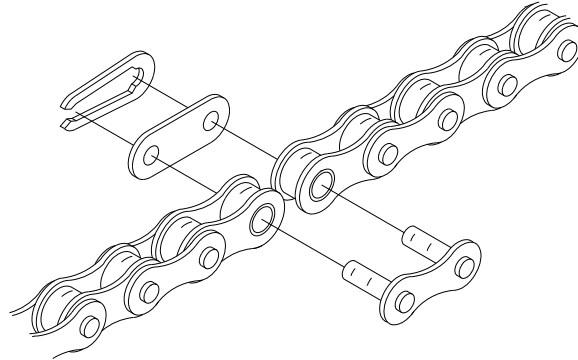

Figure 9 Chain link
2. Connect the sprockets with the drive chain, shorten to a suitable length and join together with the chain link provided in the hardware bag. To shorten the chain, punch out the pin that will leave an inside link nearest to the desired length. Connect the chain around the sprockets using the chain link (Figure 9).